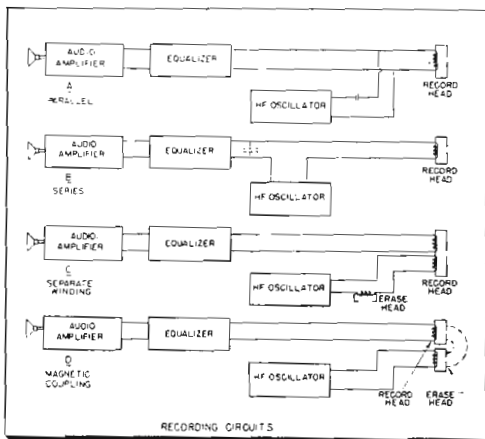

Fig. 13: Typical recording circuits, showing 4 methods of introducing high-frequency bias
Typical recording circuits are shown in Fig. 13. Four methods of introducing the high-frequency bias are shown. The parallel connection of (A) is simple, but introduces the bias voltage into the audio amplifier. The series connection (B) makes isolation easier. With both (A) and (B) the number of turns on the recording head is limited because high bias voltages might result in breakdown. This is avoided in arrangement (C), where bias is introduced by a few auxiliary turns on the recording head placed in series with the erase head. In some designs, as in (D), we can obtain sufficient bias in the recording head by induction from the erase head in close proximity.